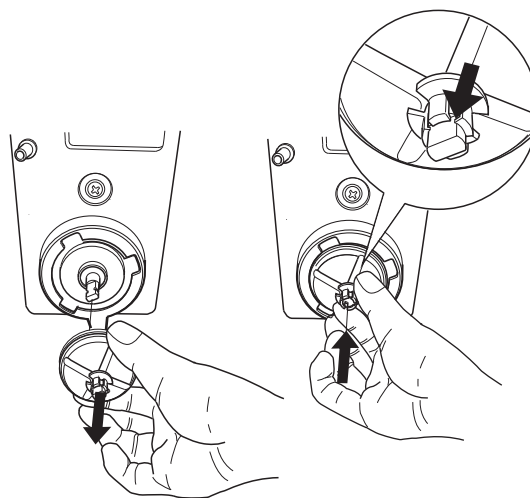

Fig. 9
- The fans can be removed by simply pulling gently to free them (see Fig. 9);